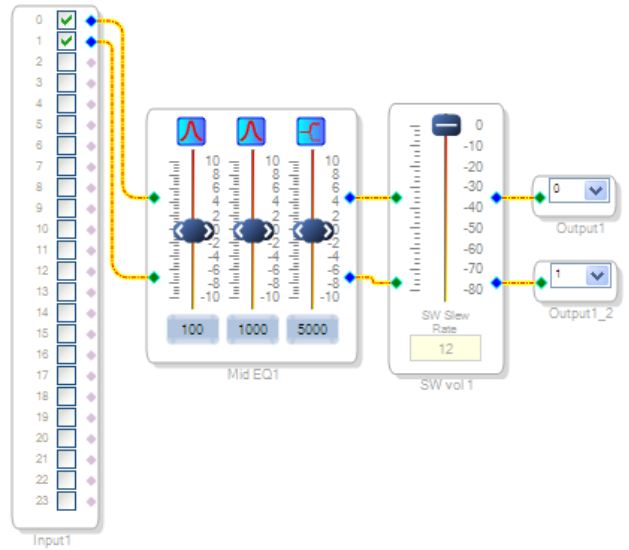

Figure 33. Completed Audio Path
- For each cell, click the blue pin and drag a wire to the green pin to create an audio path from the input to the output for each channel, as shown in Figure 33.